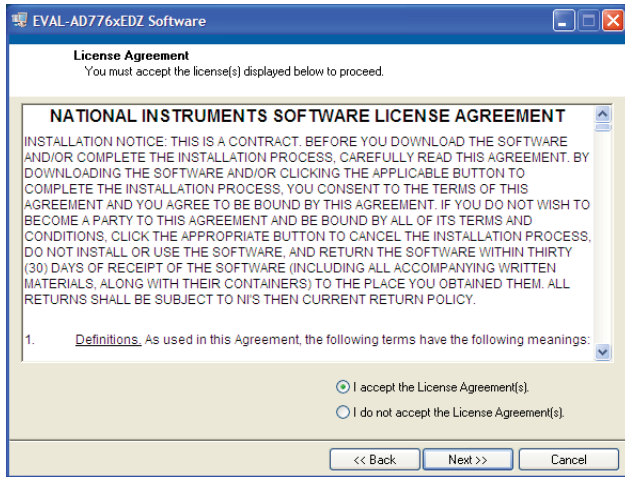

Figure 4. Accept License Agreement
3. Accept the license agreement and click **Next** as shown in Figure 4.